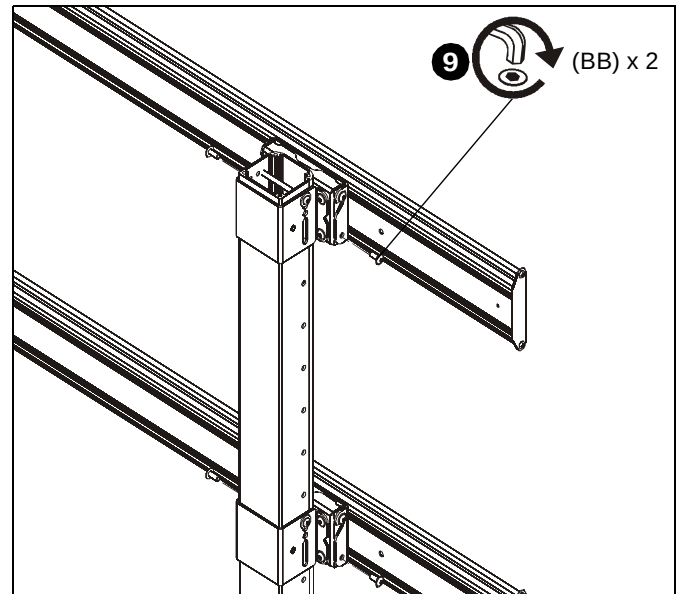

Figure 10
9. Install two 5/16-18 x 3/4" button head flange screws (BB) into the lower holes on each quick connect base (Q) to secure rails to quick connect bases. (See Figure 10)
10. Tighten all 5/16-18 x 3/4" button head flange screws (BB).